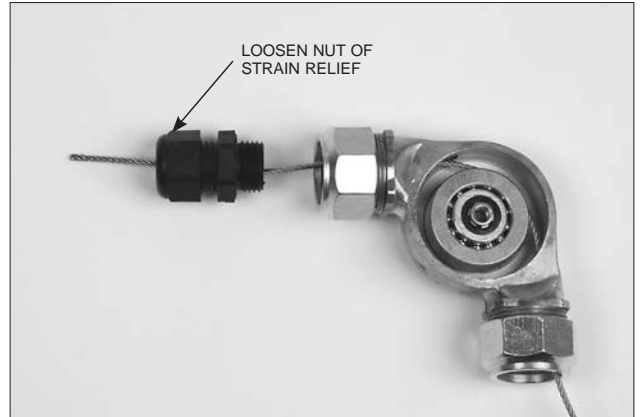

FIGURE 5-65
4. Loosen the nut on the strain relief and thread the wire rope through the strain relief. See Figure 5-65.